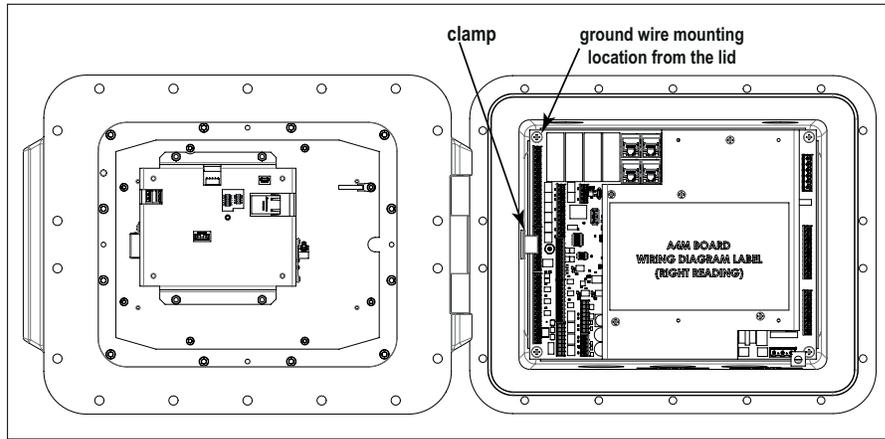
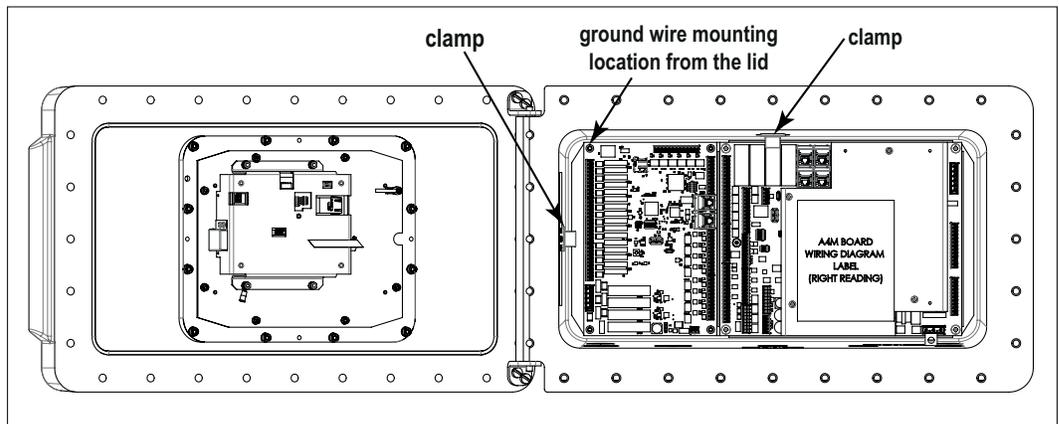

Figure 7 – ALIV-ST clamp location
Figure 8 – ALIV-QT clamp locations
6. Install the cable clamp(s) used to hold the power and Ethernet cable assembly in the locations as shown. One clamp for the -ST (refer to Figure 7) and two clamps for the -QT (refer to Figure 8). The clamps are installed so that the top edge of the clamp is 1 1/2" down from the housing flange on the -ST housing, and 5 1/2" down on the -QT housing.
9. Connect the Intrinsic safety ground wire (Green wire) ring terminal from the front cover to the selected board assembly mounting screw to establish a ground connection to the back housing. See Figure 7 for the -ST housing location, and Figure 8 for the -QT location. Remove the captive mounting screw to place the ring terminal.